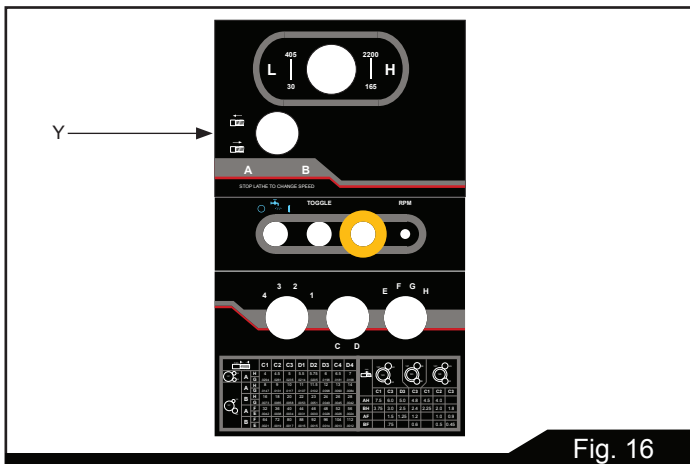

Fig. 16
In addition to handwheel traverse, the carriage can be power-operated through controls on the front of the apron, see Figure 16 knob (A). Automatic feed lever (A) if moved upwards, the carriage will do longitudinal-feed operation. If the lever (A) is placed in middle position, it will perform manual operation. If the lever (A) is moved downward, it will perform the cross-feed operation.